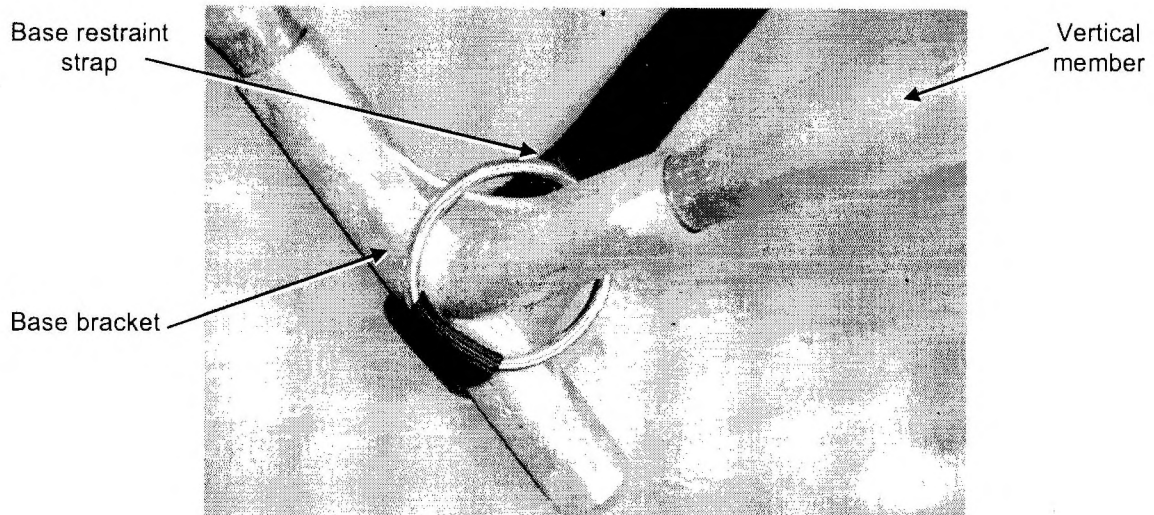

Fig 4 Base restraint strap fixing
10.1 Refer to Fig 4 and fit the base restraint straps.